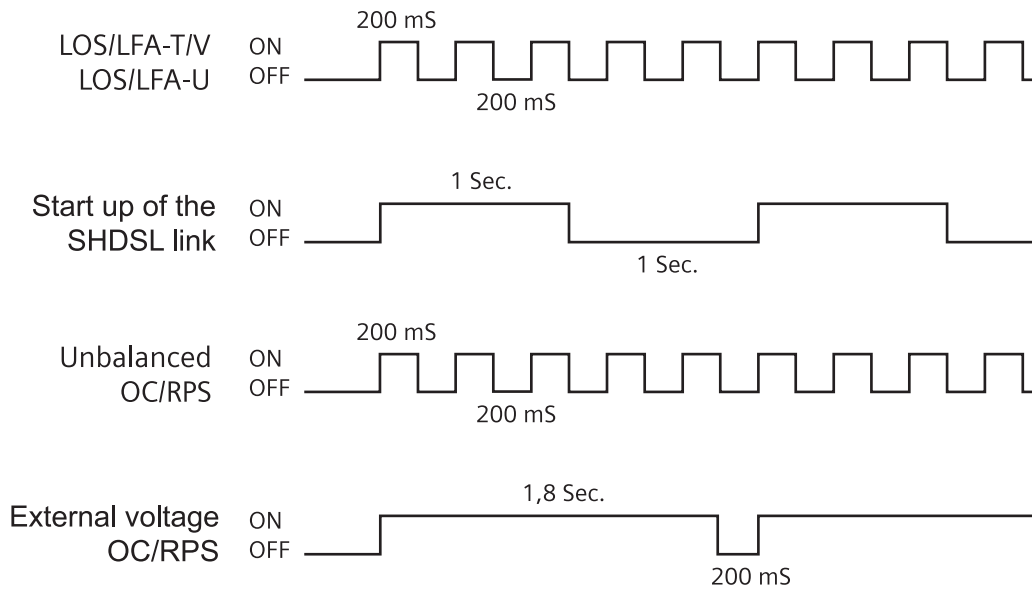

Fig. 2.206 Visual signalling of the LR-DSTU
1) Visual signalling see Fig. 2.206